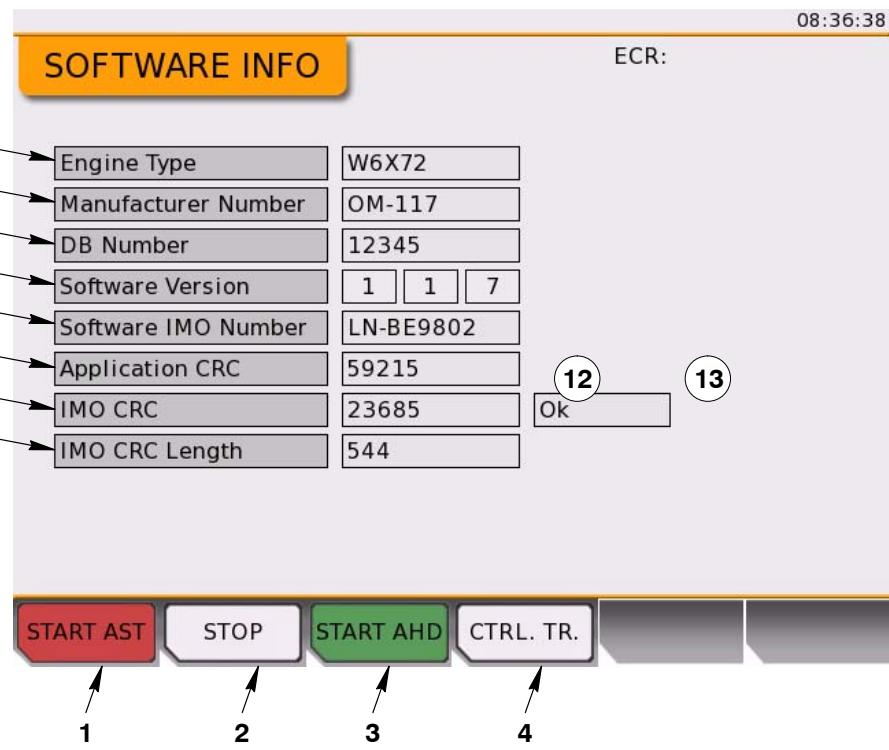

Fig. 16: Software Info
- 6) When the cursor (a blue highlight in the list) is on a selected log message, you push the rotary button. This shows a different screen, which has more data about this log entry (see Fig. 16).